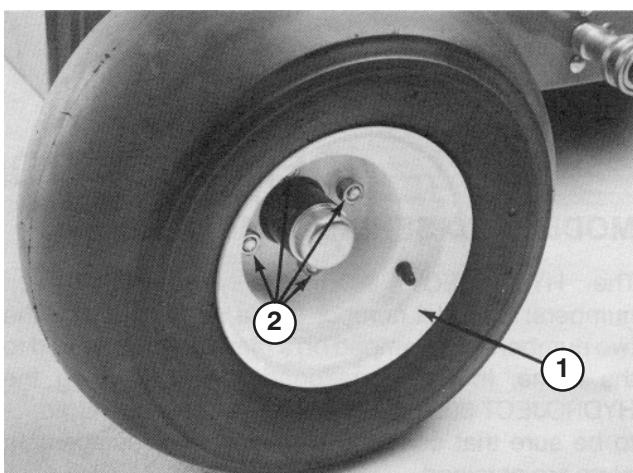

Figure 1
2. Mount the wheels to the hubs with the lug nuts (supplied in loose parts) (Fig. 1) and torque the nuts to 45–55 ft.-lb. (61–75 N·m).